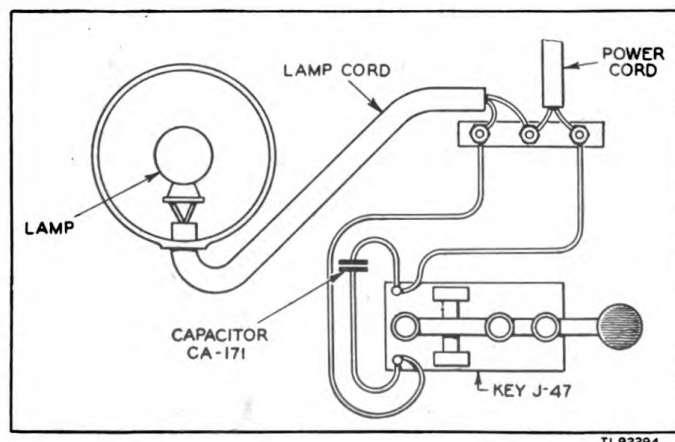

Figure 14. Signal Lamp Equipment EE-80-(), cording diagram.
25. Electrical Circuits (fig. 14).